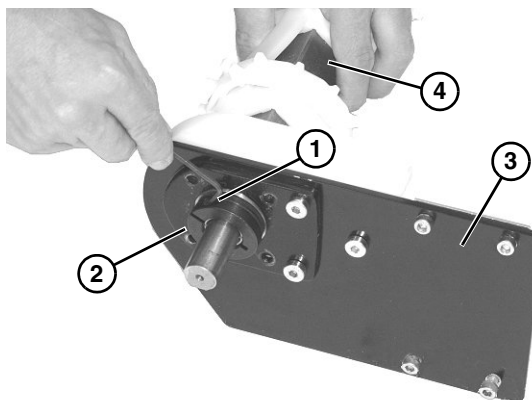

Figure 29
7. Loosen the bearing collar set screw (**Figure 29, item 1**) and remove bearing collar (**Figure 29, item 2**).
8. Remove plate (**Figure 29, item 3**) from drive spindle (**Figure 29, item 4**).